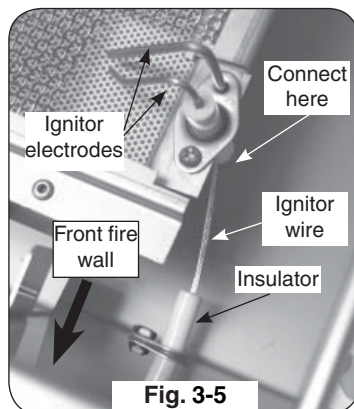

Fig. 3-5
5. Connect the non-insulated metal end of the ignitor wire to the bottom of the ignitor electrode assembly at the forward right of the infrared burner (see Fig. 3-5).